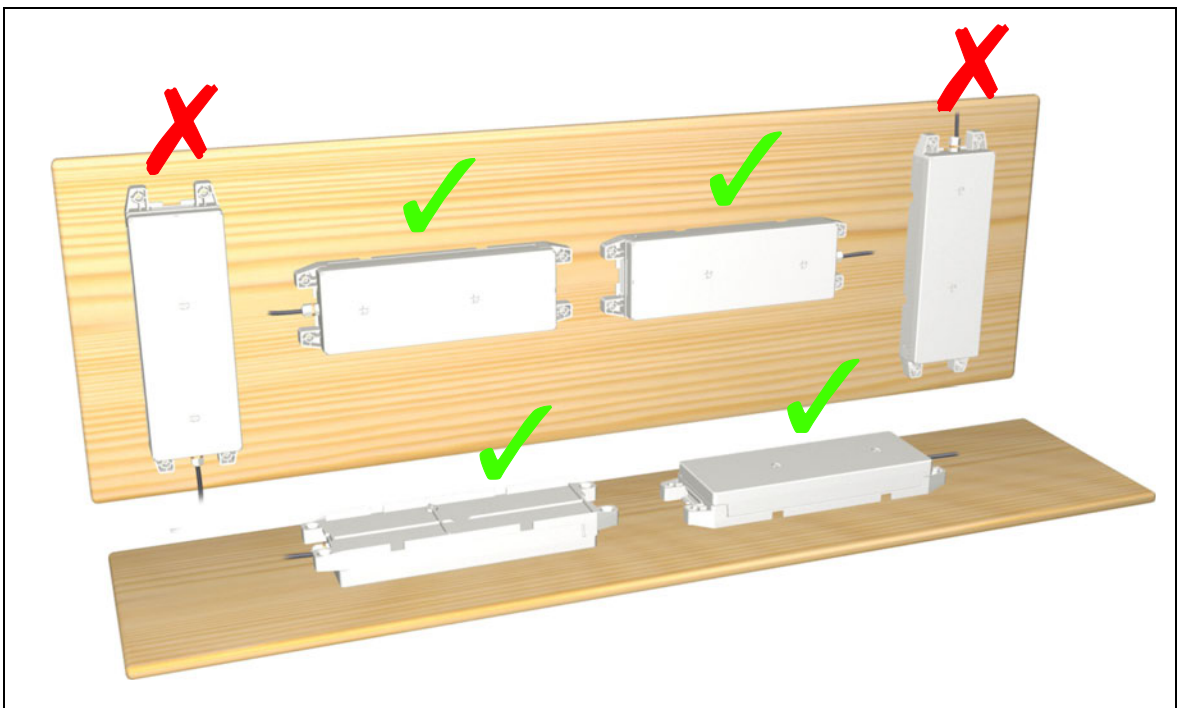

Figure 11 Permitted and prohibited positions when charging the AG300
<p>The following information is important when mounting the AG300:</p> <ul style="list-style-type: none"> <li>• Charge the AG300 completely (for at least 24 hours) before first use. The installed batteries achieve their full capacity only after 5 to 10 discharge cycles.</li> <li>• The air vents on the AG300 must not be covered during the charging process.</li> <li>• When mounting the AG300, make sure that it is not lying on its top (upside down) and the connecting cable is not facing downwards. The AG300 may only be charged when it is properly positioned (as shown in Figure 11).</li> <li>• Allow the AG300 to rest for about 1 hour after charging it; this will prolong its life-span.</li> </ul>
- Charge the AG300 only in its permitted charging position (as shown in Figure 11).
<p>The AG300 should only be charged by drives or control units from DewertOkin since they have already been verified to work together. The AG300 may also be charged with a DewertOkin charging station.</p> <p>Note the following information when charging:</p> <ul style="list-style-type: none"> <li>• Charge the AG300 completely (for at least 24 hours) before first use. The installed batteries achieve their full capacity only after 5 to 10 discharge cycles.</li> <li>• Refer to Figure 11 for the permitted charging positions.</li> <li>• Allow the AG300 to rest for about 1 hour after charging it; this will prolong its life-span.</li> </ul>